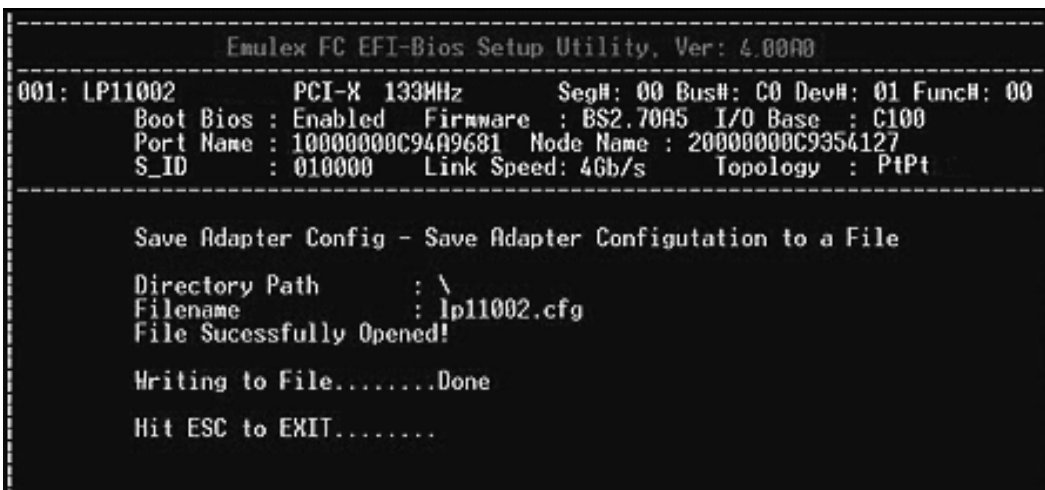

Figure 52: Completed Save Configuration to a File screen
2. After you enter the directory path, you are prompted to enter the file name. Do so, and then press **<Enter>**. The screen shown in Figure 52 displays the status of the save.